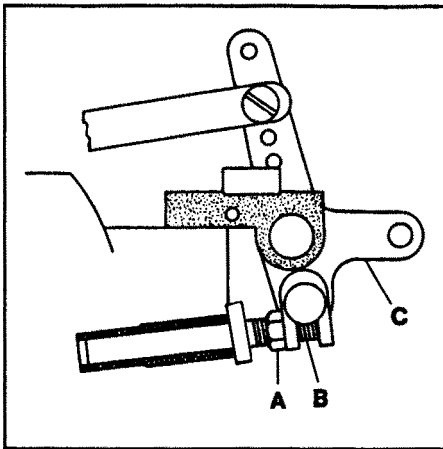
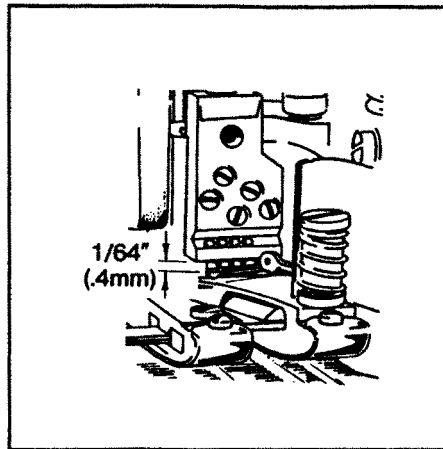

FIG. 24
FIG. 25
The presser foot lifter stop plunger must be set so the cover thread hook will not hit the bottom of the needle head as the presser foot is being lifted. Position the needle bar to its lowest point of travel. Loosen nut (A, Fig. 24) and turn plunger (B) clockwise until it strikes the crankshaft counterweight. While applying pressure to lifter (C) to lift the foot, back out of the plunger until the distance between the hook and the underside of the needle head is  $1/64"$  (0.4mm) (see Fig. 25). Tighten nut (A, Fig. 24).